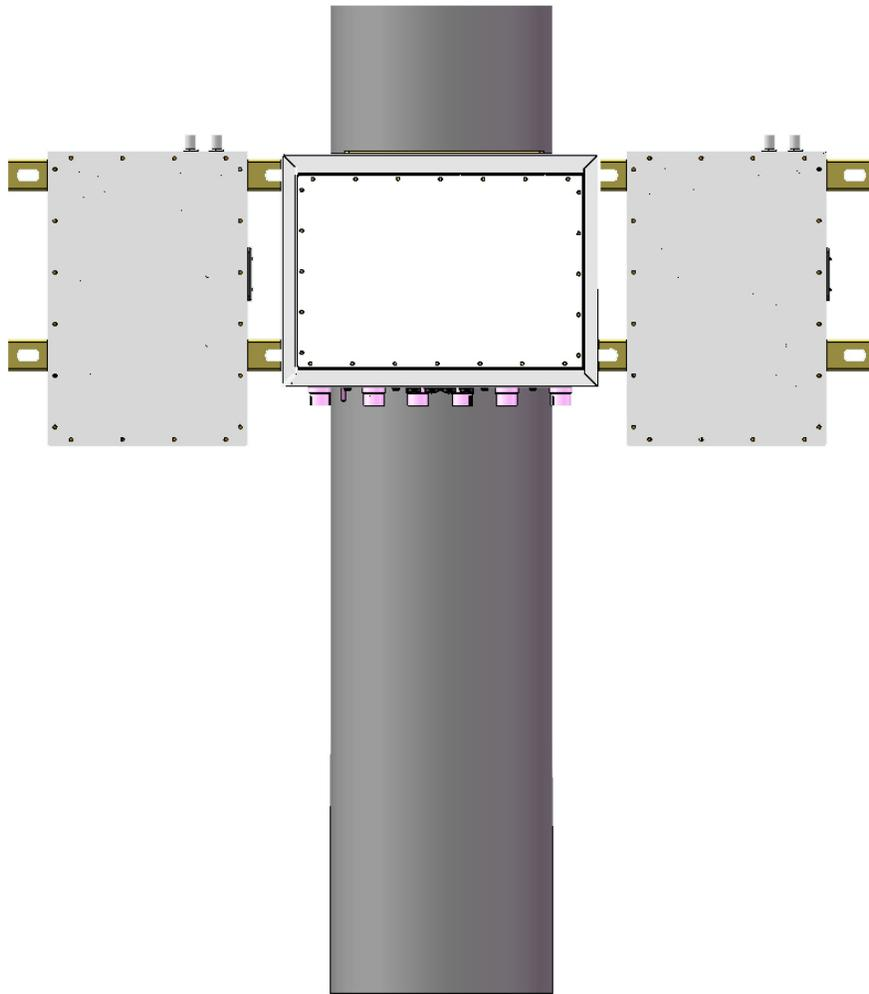

Figure 4-2 Antenna Mount Front View on King Post
2. Mount the units as shown per figure 4-2 below. Configure units.